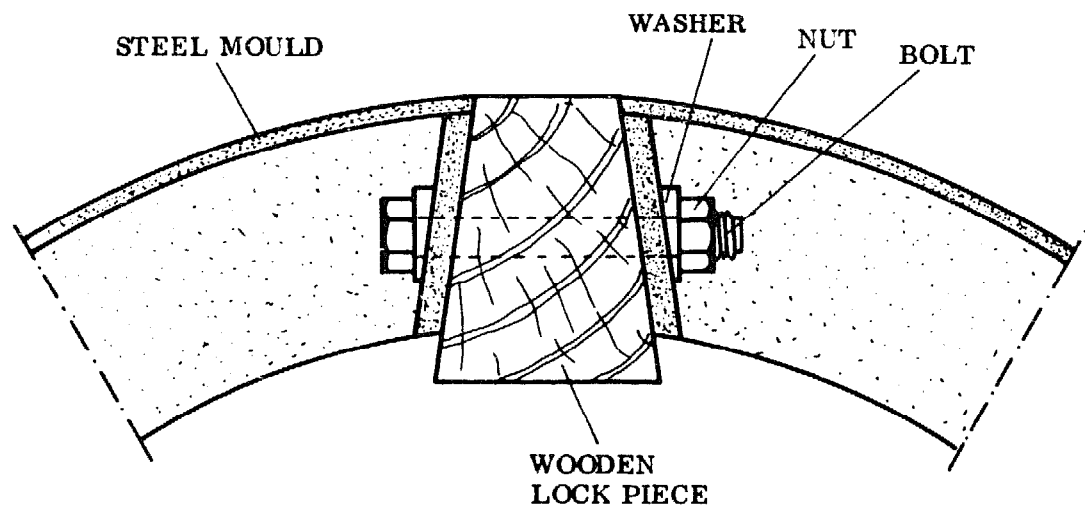
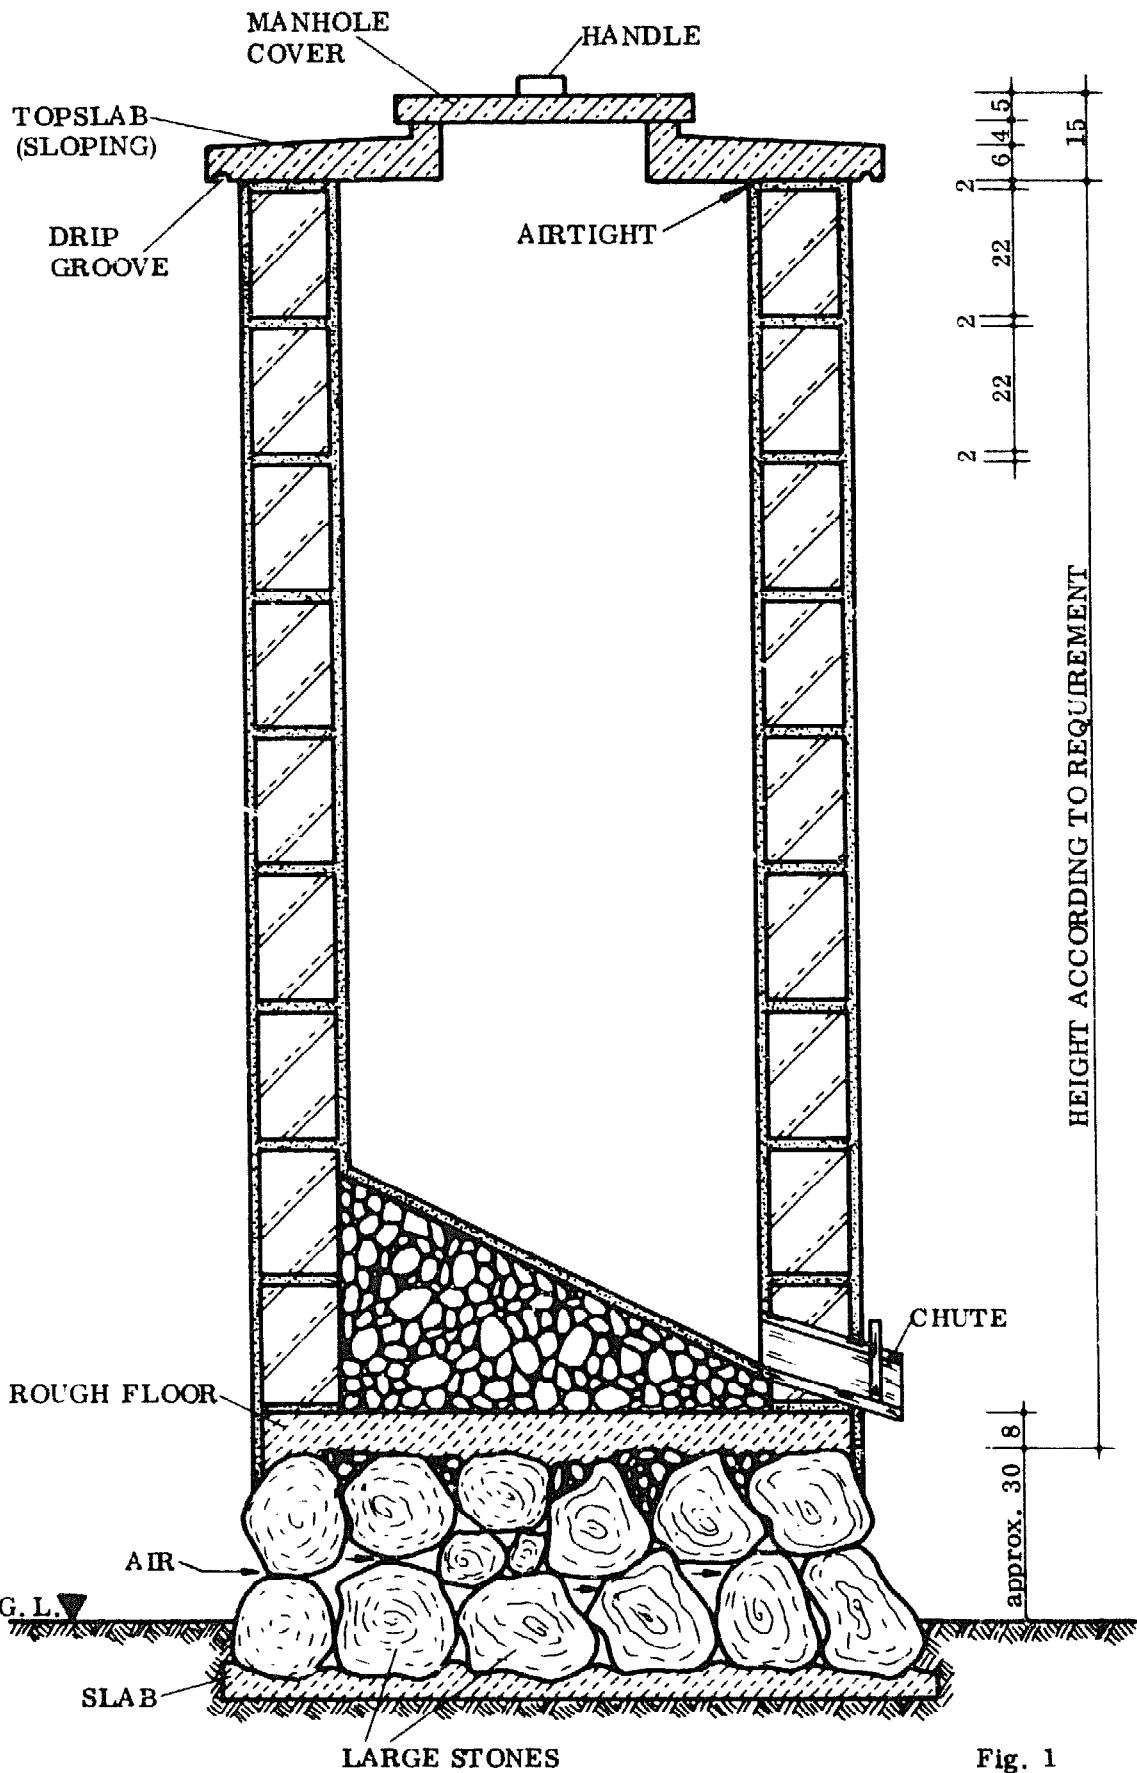

Fig. 3
Fig. 1
- MOULDS: A steel mould (Fig. 1) or a wooden mould (Fig. 2) is used to support the sections of concrete lining during construction and curing. After the ring has hardened sufficiently, the wooden lock pieces are removed and the mould is taken out and used for the next ring (Fig. 3).